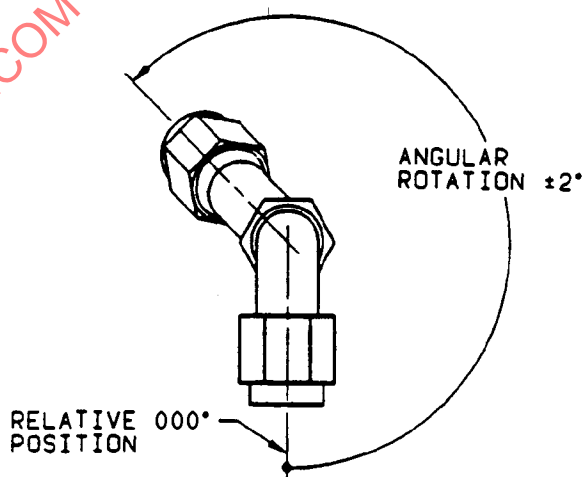

FIGURE 2 - FITTING ORIENTATION
- /19/ THE FITTING'S ORIENTATION DASH NUMBER IS A THREE DIGIT NUMBER DEFINING THE RELATIVE POSITION OF THE END FITTINGS IN 1° INCREMENTS (EXAMPLE: 090 = 90°). FITTING ORIENTATION SHALL BE MEASURED COUNTERCLOCKWISE FROM THE NEAREST END FITTING WHICH SHALL BE IN THE RELATIVE 000° POSITION (SEE FIGURE 2). WHEN END FITTINGS ARE POINTED IN THE SAME DIRECTION, THIS DASH NUMBER SHALL BE 000.